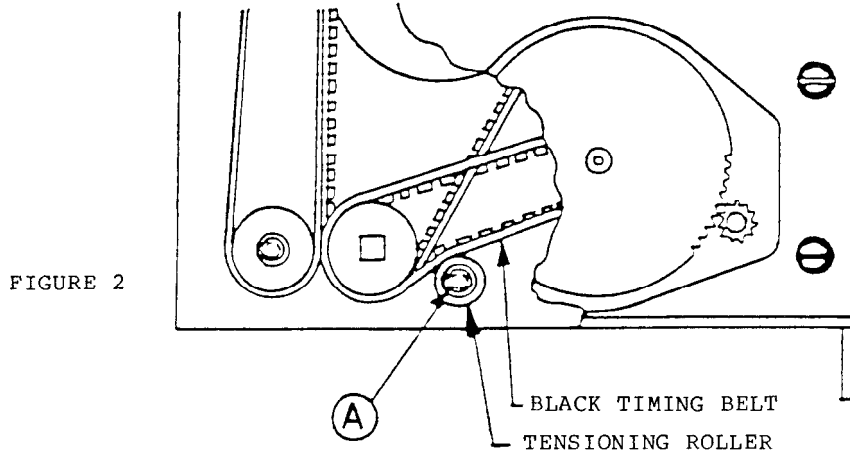

FIGURE 2
Check the tension of the black timing belt. If an adjustment is required, loosen screw (A) in Figure 2; reposition the roller and tighten screw (A). The belt should be just tight enough to avoid skipping teeth.